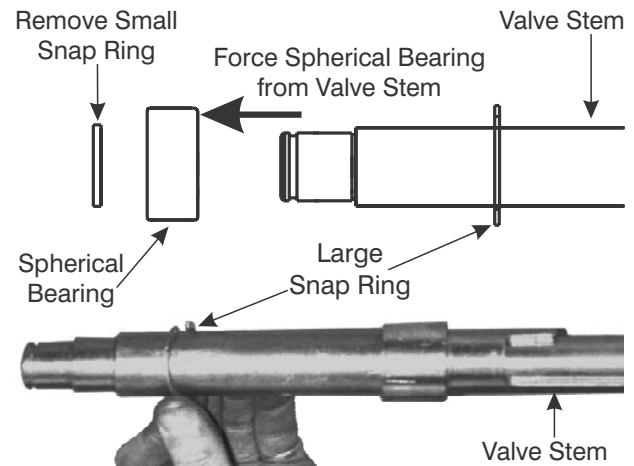

Figure 8-34. Remove Spherical Bearing and Snap Ring from Valve Stem
11. Use a hammer to drive the Spherical Bearing (2) from the Valve Stem (5).
12. Slide the loose Snap Ring (4) from the Valve Stem as shown in Figure 8-34.